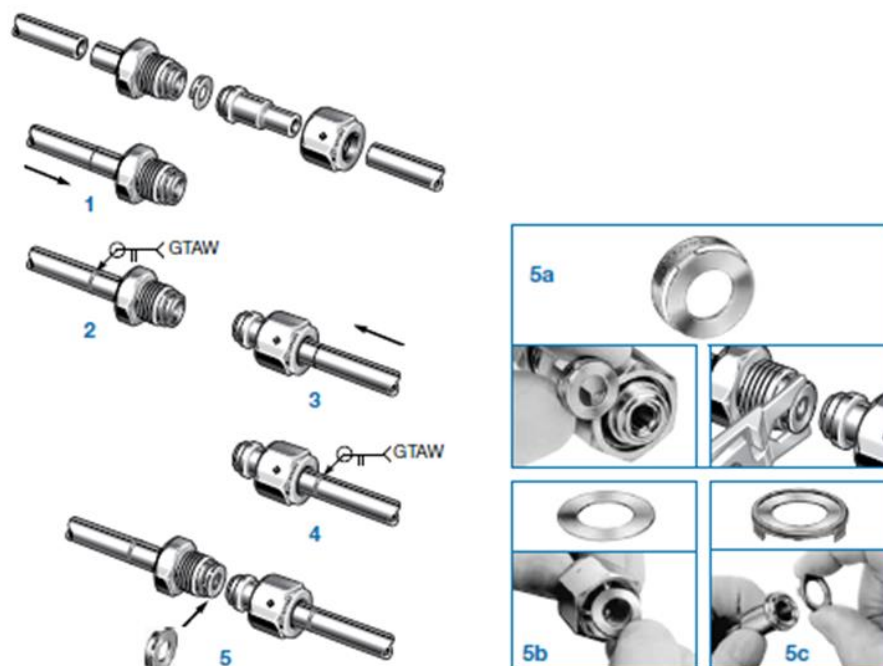

Fig. 8, VCR fitting installation instructions
- ▶ Follow the step-by-step instructions shown below in Figures 8 & 9.
- ▶ Follow the step-by-step instructions shown above in Figures 8 & 9.